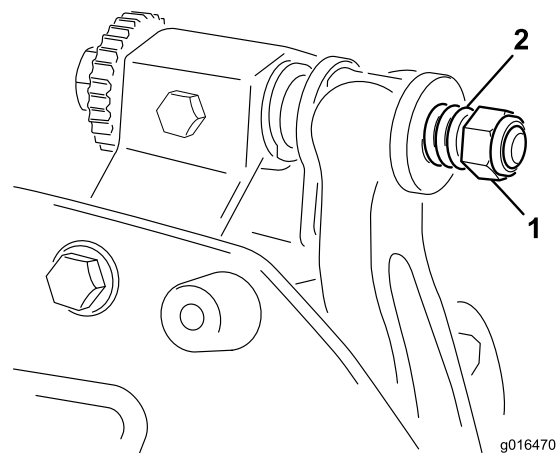

Figure 27
- Tighten the spring tension nut until the spring is collapsed, then back it off 1/2 turn (Figure 27).